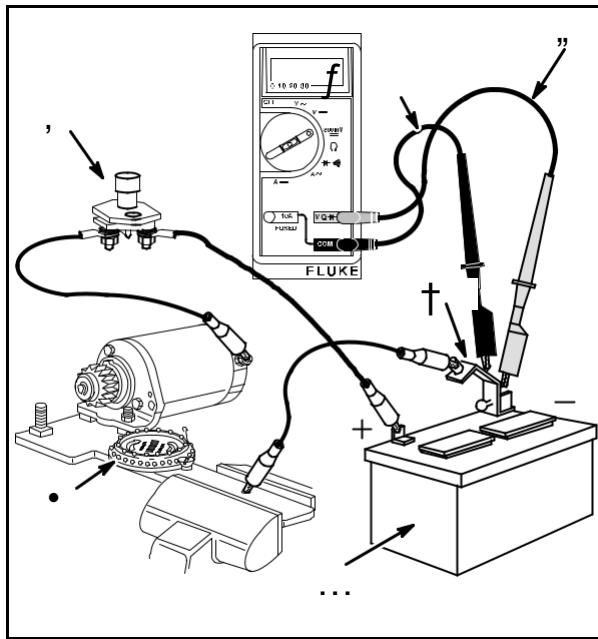

Fig. 51
Clamp test bracket in vise, **Fig. 51**.
The DC Shunt (6) **MUST** be installed on the **NEGATIVE (-)** battery terminal as shown in **Fig. 51**.